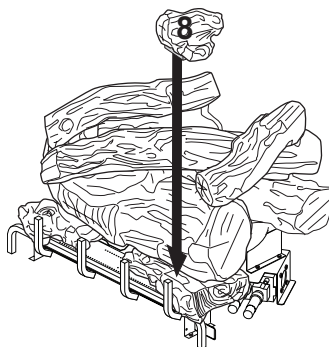

Figure 35 - Installing Log #8
8. Place small front log (#8) into slot on right bottom log (#3) as shown in Figure 35.